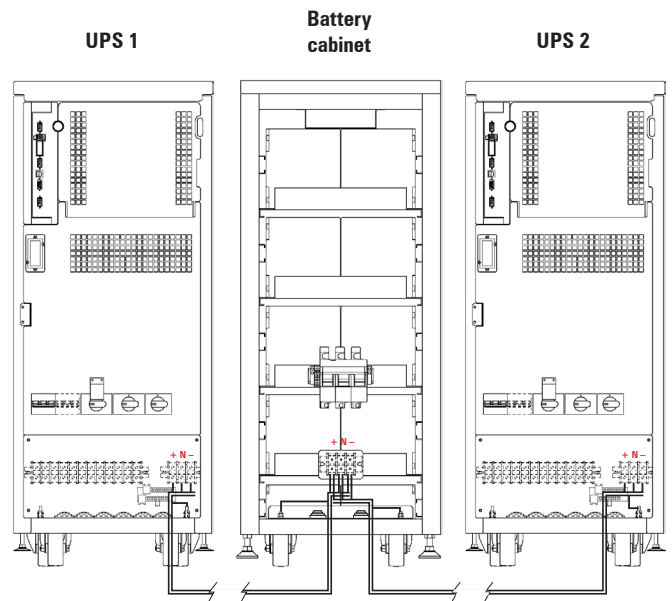

Fig. 35. Example of connection of two UPSs in parallel and a common battery set.
- Also, as an option, there is another structure, a common battery set for parallel system of two equipments fitted in a cabinet or rack. The connection of each UPS with the battery cabinet will be done with the supplied cable bundle, by connecting one side to terminals (X11), (X23) and (X12) of UPS and the other one to terminals (X47), (X49) and (X48) of battery module, always respecting the stated polarity on the labelling of each element and this manual, as well as the colour of the cables (red for positive, black for negative, blue for middle tap (N) and green-yellow for earth bonding), see Fig. 35.